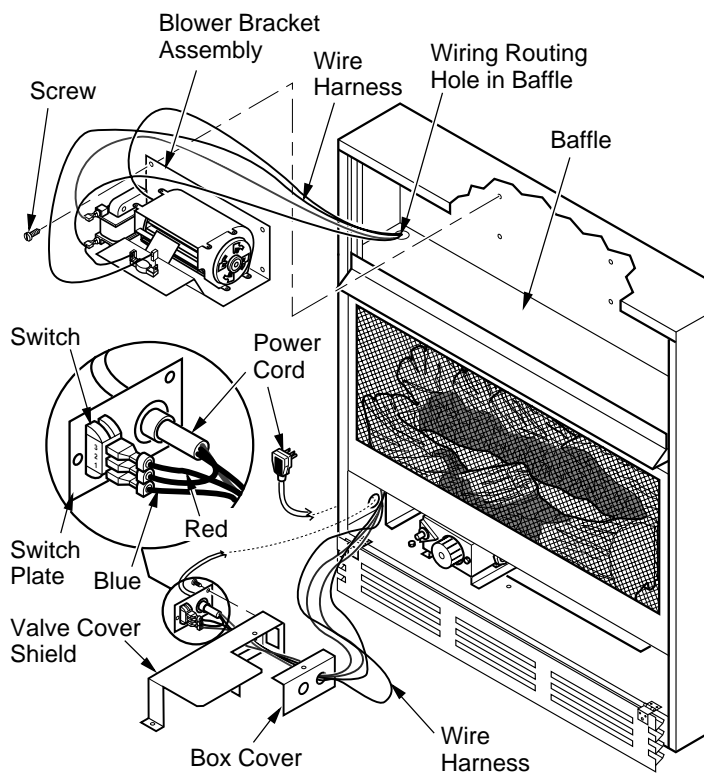

Figure 18 - Installing Blower Bracket Assembly
3. Note the wire locations on back of AUTO/OFF/ON switch. The terminals on back of switch are numbered 1, 2, and 3. Carefully remove red wire from terminal 1 and blue wire from terminal 3. Black wire can remain on middle terminal 2 (see Figure 18).
5. In top of the heater cabinet, locate the four mounting holes on the outer casing. Align these four holes with those on the blower bracket assembly. Attach blower bracket assembly to the outer casing with 4 #10 screws provided (see Figure 18).
6. Route the wire harness through the hole in left side of baffle. Pull wire harness through lower opening above where the valve shield was removed. (see Figure 18).
7. Insert the 4 wire harness into one of the round holes in the rear of the valve cover shield and through the rectangular hole in the front of shield (see Figure 18).
9. Install the switch plate on the valve cover shield with 2 #10 screws provided (see Figure 18, page 12). Reinstall the valve cover shield. Route power cord out of the cabinet by inserting it through the bushing on the outer casing (see Figure 18, page 12). Plug fan kit into 120-Volt grounded power supply and test operation. **Note:** When switch is in the AUTO position, the fan will start after the heater has run for a few moments. The fan will continue to run for several moments after the heater has been turned off. When switch is in the ON position, the fan will run until turned to OFF. Reinstall upper louver assembly and hood if previously removed, (see Figure 16, page 11). Close lower louver door.